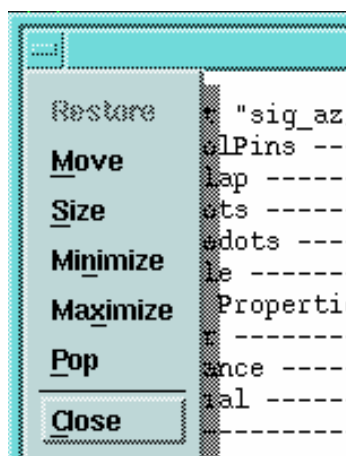

Figure 2-41. Window > Close Menu
- After you correct any errors, close the Report window by choosing the **Window > Close** menu item shown in Figure 2-41.